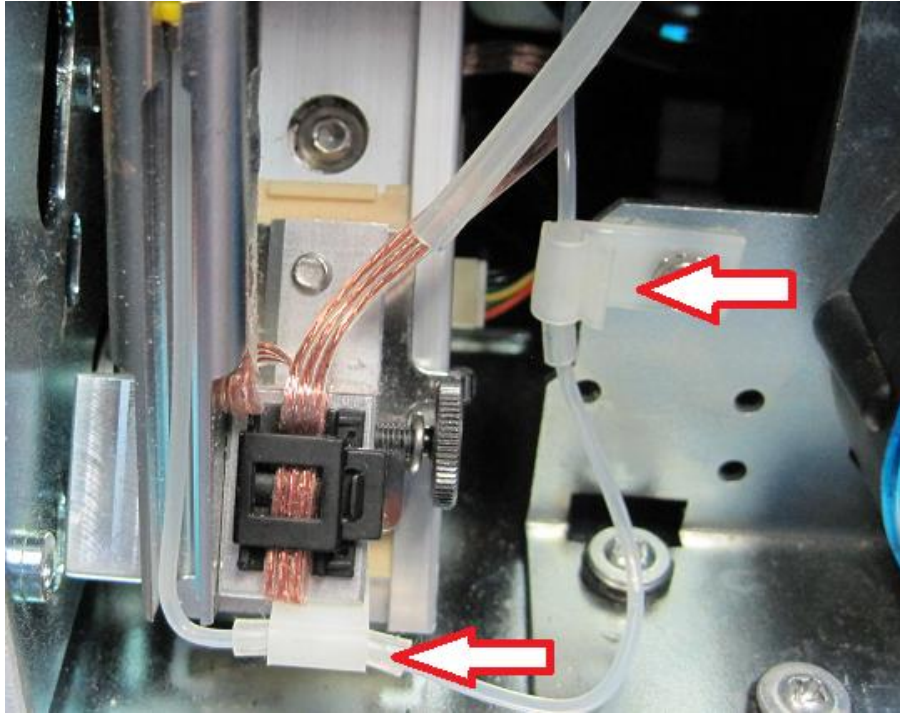

Figure 11
12. Re-Insert Needle-to-Reading Cell Tubing back into retention clips. Figure 11